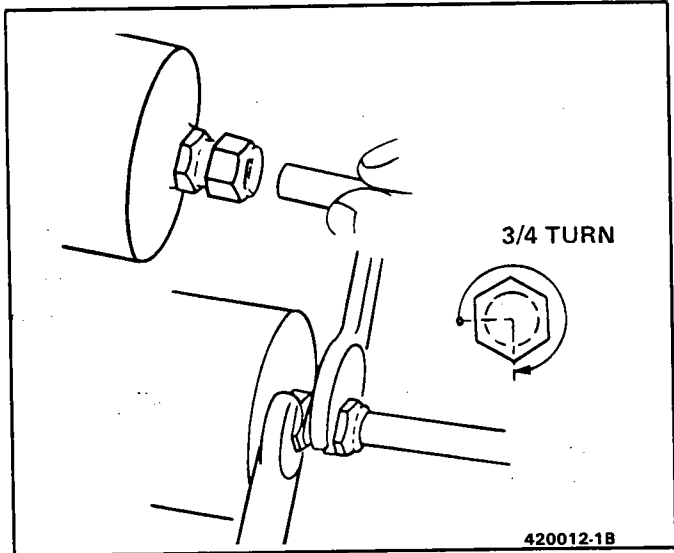

Figure 1B-12 Aluminum Line Filter Installation
5. Apply a small amount of lubricant to inside of socket and slide over barbed end of can fitting, round end towards can and hex end away from can (Figure 1B-11).
- Push cut end of hose over barbed end of can fitting until all barbs are covered. Hose end should be 1/8 inch past last barb (Figure 1B-11).
8. Approximately 1/8" of hose end should protrude from round end of socket when socket has been adequately threaded onto hose (Figure 1B-11).